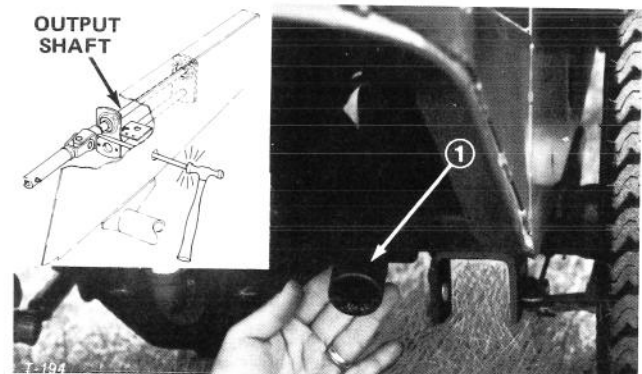

Figure 18
2. Remove five wheel nuts and slide left wheel off axle to expose access hole inside of chassis (Fig. 18).
3. Push PTO lever forward until pulley and brake disengage. Align hole in PTO shaft with hole in chassis (Fig. 18).
4. Through access hole in chassis, drive roll pin out of PTO shaft and output shaft with pin punch and ball peen hammer (Fig. 18).